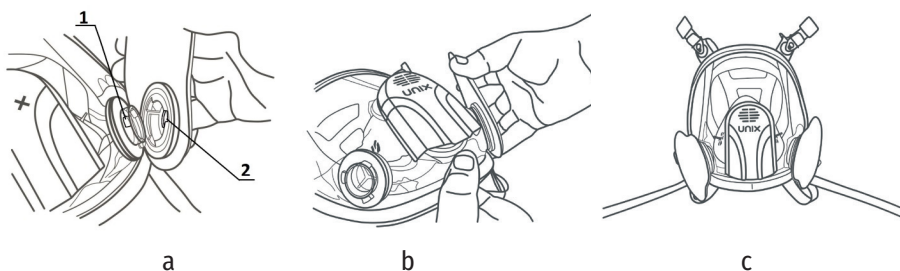

Figure 3 – Connecting the filter to the mask
- connect the filters to the mask, for which combine a smaller protrusion on the saddle of the inhalation valve (figure 3 a, (1)) with a smaller opening (figure 3 a, (2)) on the bayonet filter slot and turn the filter clockwise until it stops (figure 3 b);
If the mask is slightly inflated and there is no leakage of the air along the line of obturation, then the mask is worn correctly and properly operated, so the mask with the filters is assembled correctly (figure 3 c).